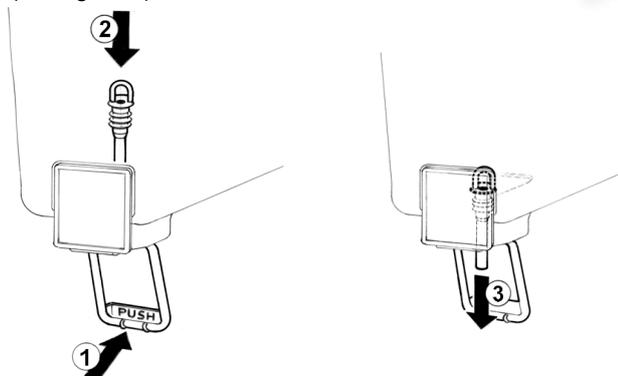

figure 5
- 2 **Pinch tube faucet:** push the dispensing handle (1) and insert the pinch tube into its vertical seat in the bowl bottom (2). Lightly pull the pinch tube end downwards till it is well arranged (3) (see figure 5).